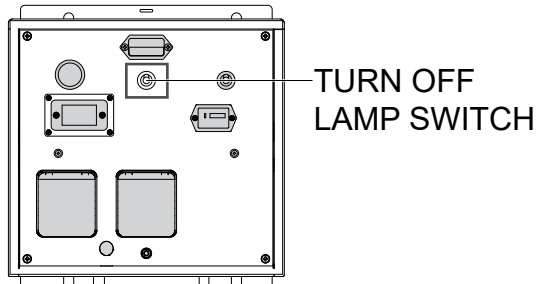

Figure 22. Lamp Switch OFF
1. Turn off the lamp switch (Figure 22).